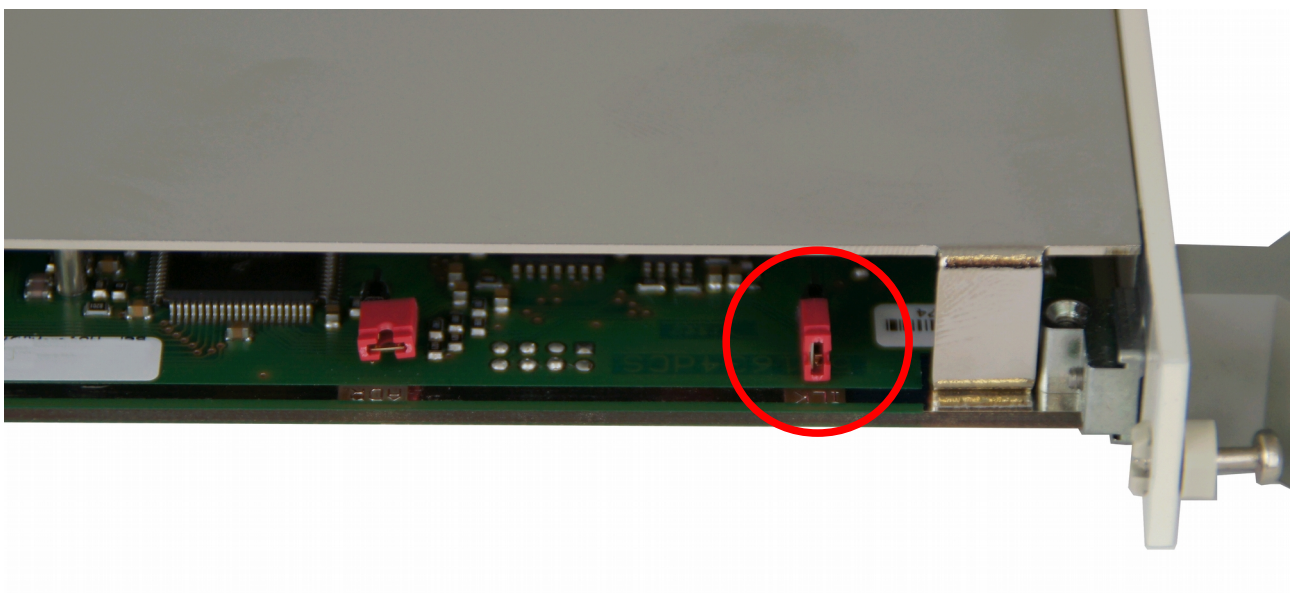

Figure 1: "ILK" Jumper
A safety loop can be implemented by the safety loop socket (SL) on the front panel and between the SLcontacts (Pin 22 and PIN 30) at the REDEL-connector, if equipped. If the safety loop is active a high voltage generation in any channel is only possible if the safety loop is closed and an external current in a range of 5 to 20 mA of any polarity is driven through the loop. For modules with a REDEL-connector the front panel SL input must be shortened. If the safety loop is opened during the operation the output voltages will be shut off without ramp and the corresponding bits in the "*ModuleStatus*" and "*ModuleEventStatus*" are cancelled (CAN\_EDCP\_Programmers-Guide.pdf, see chapter 9 Appendix). After closing the loop again the "*ModuleEventStatus*" has to be reset and the channels have to be switched ON. The loop connectors are potential free, the internal voltage drop is approx. 3V. By factory setup the safety loop is not active (the corresponding bits are always set). The loop can be activated by removing the jumper "ILK" on the top side of the module, see Figure 1: "ILK" Jumper.